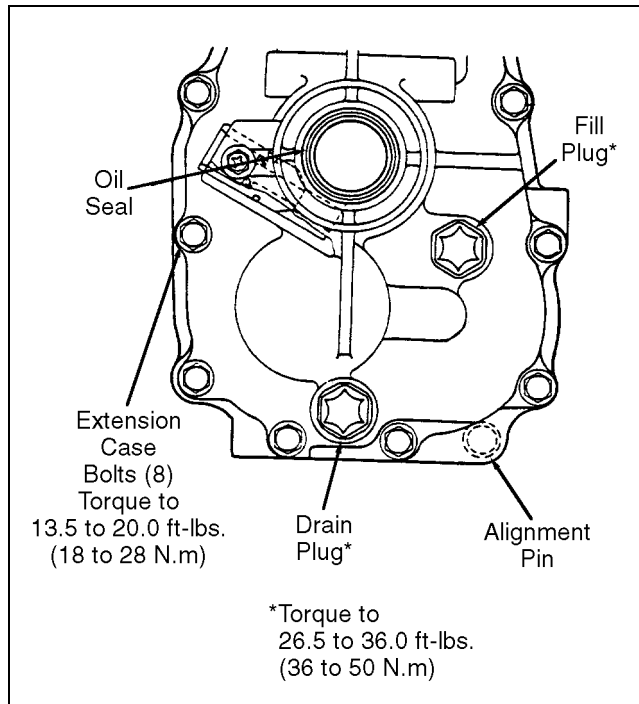

Figure 4H-37. Extension Case Installation
1. Position the assembled gear shift case on the extension case as shown in Figure 4H-38.